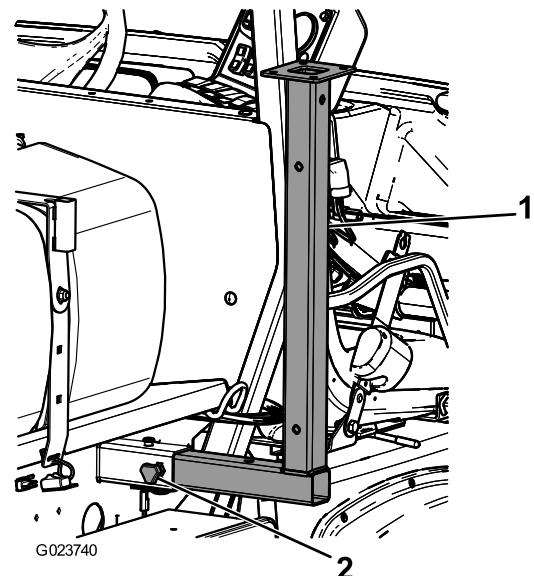

Figure 40
1. Insert the front jack stands upside down into the frame near the front tie-down points (Figure 40).